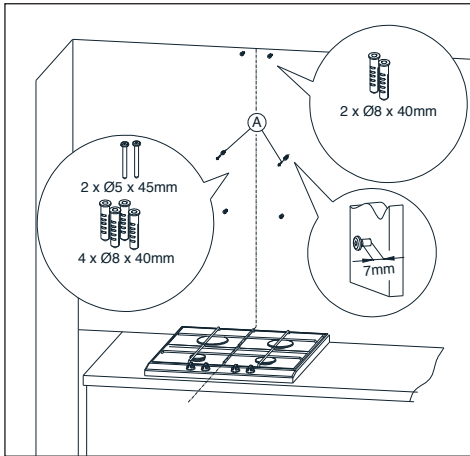

Fig.5 Screw plugs assembly
2. Into the openings, insert the screw plugs. In two openings marked with A screw also the screws (leaving 7 mm of screw length outside the screw plug, Fig.5).